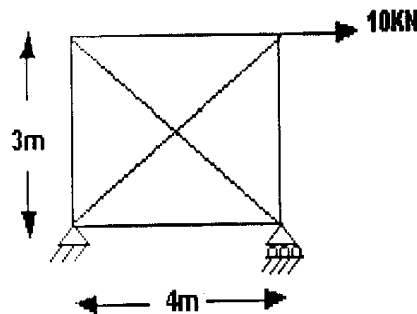

Figure 3:
8. Analyse the frame shown in Figure 3. All the members have same cross sectional area of  $20\text{cm}^2$ . E in same for all the members. [16]